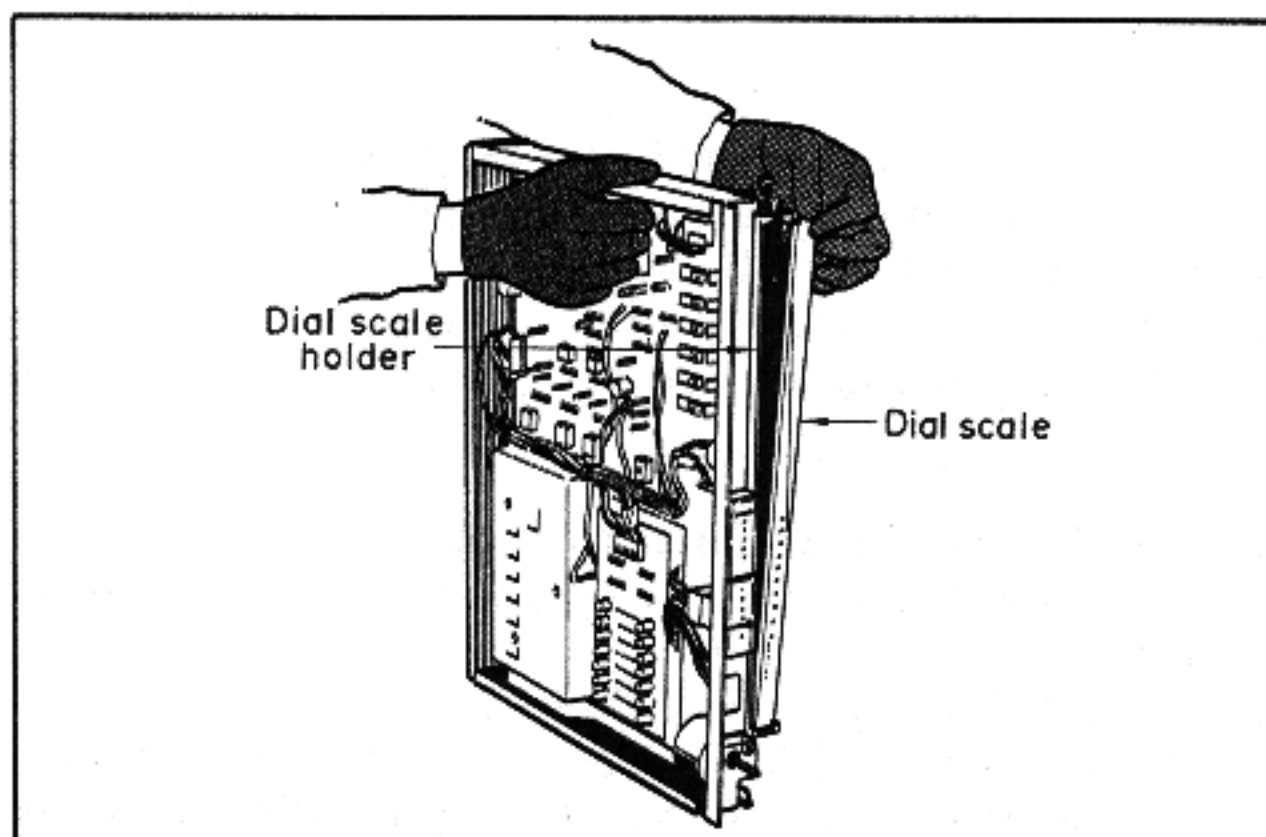

Fig. 2
- c. As in Fig. 2, depress the dial scale in the direction of arrow 1, and then remove it in the direction of arrow 2.
- * When the dial scale is attached to the holder, depress in the direction of arrow 1 in Fig. 2 and at the same time slip it into the holder.
- d. Remove screw (6) and (7) in Photo 3 (M3 x 6 bind head screws) and then remove the dial scale holder.